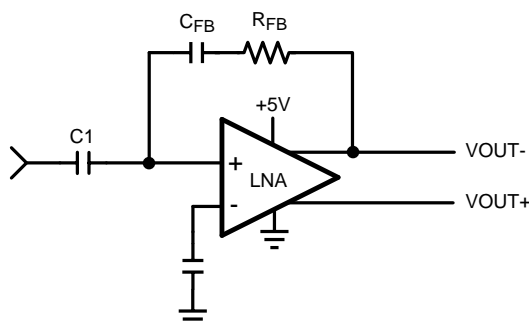

Figure 6-4. Active Termination Schematic
2. Active feedback termination is illustrated in Figure 6-4, where no termination resistor is used and feedback ($R_{FB} + C_{FB}$) sets the effective input impedance to provide proper cable termination. This termination scheme is employed for improved harmonic distortion and noise performance. With no physical termination resistor, there is no resistor thermal noise degradation of the LNA noise, and thus increased SNR compared to standard termination.